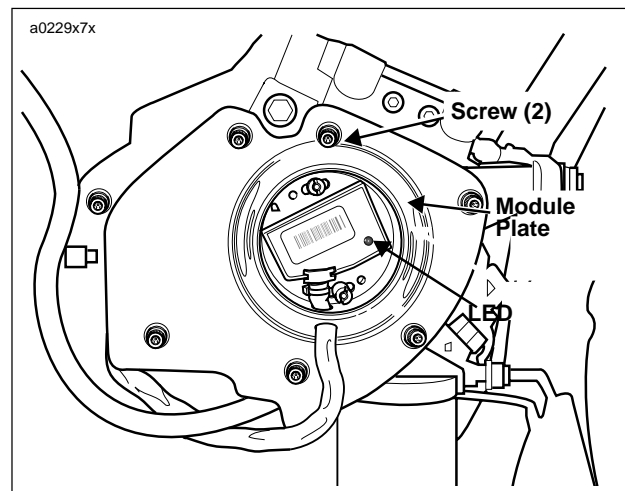

Figure 7-23. Static Ignition Timing (Typical)
9. See Figure 7-23. Loosen two screws and slowly rotate module plate until red LED illuminates. Tighten module plate screws to 15-30 **in-lbs** (1.7-3.4 Nm) when complete.